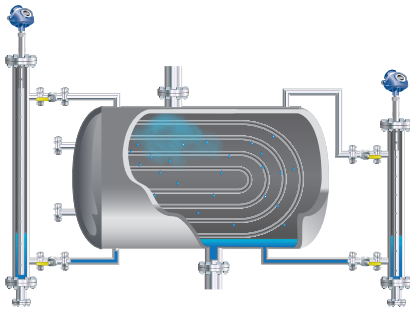

Figure 4.3.1: Feedwater heater level with long and short range installation of external chamber
- Short range installation is recommended, see *figure 4.3.1*